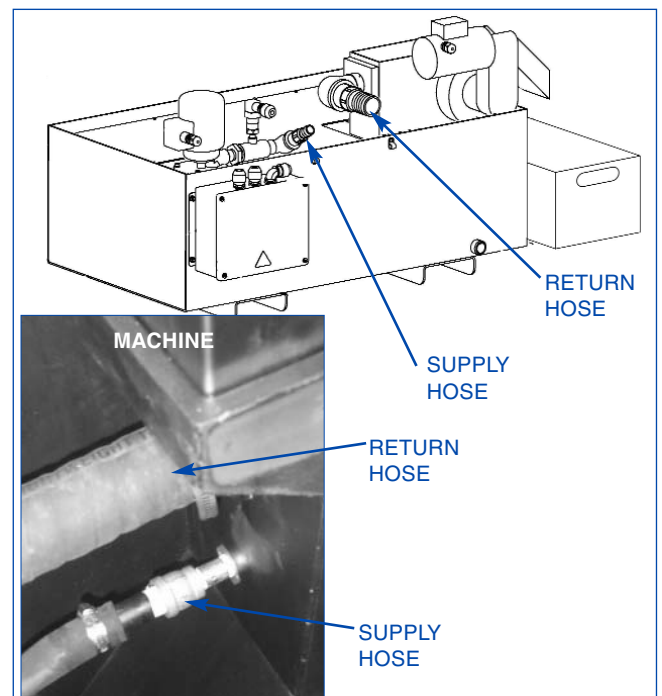

FIGURE 1-2, Coolant Lines
Unit is designed to be connected to a machine tool via a Supply and Return Hose (see Figure 1-2).
1. Route and connect coolant Supply and Return Hoses to corresponding supply and return connections on your coolant system and machine (refer to Figure 1-2).